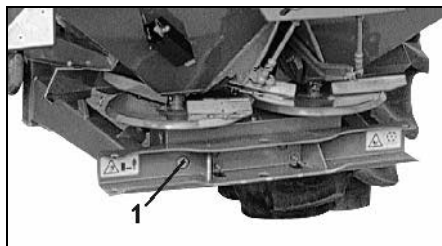

Fig. 55
Under normal conditions the gear box is maintenance-free. The gear boxes are supplied with sufficient oil by the manufacturer. **The oil level must be visible in the oil level gauge** (Fig. 55/1). A refilling of oil normally is not necessary.
- unscrew oil level gauge (Fig. 55/1),
- screw in oil level gauge (Fig. 55/1) again.